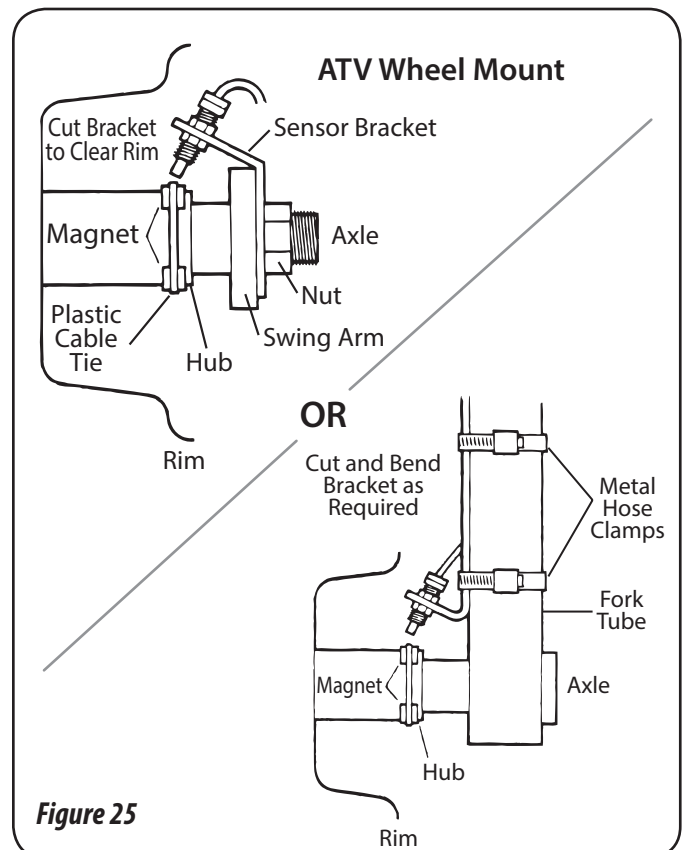

Figure 25
1. Using one cable tie (ribbed side toward magnets), secure two magnets to the wheel hub so they are exactly opposite each other. Alternate the magnets' polarities. See Figure 25 below.